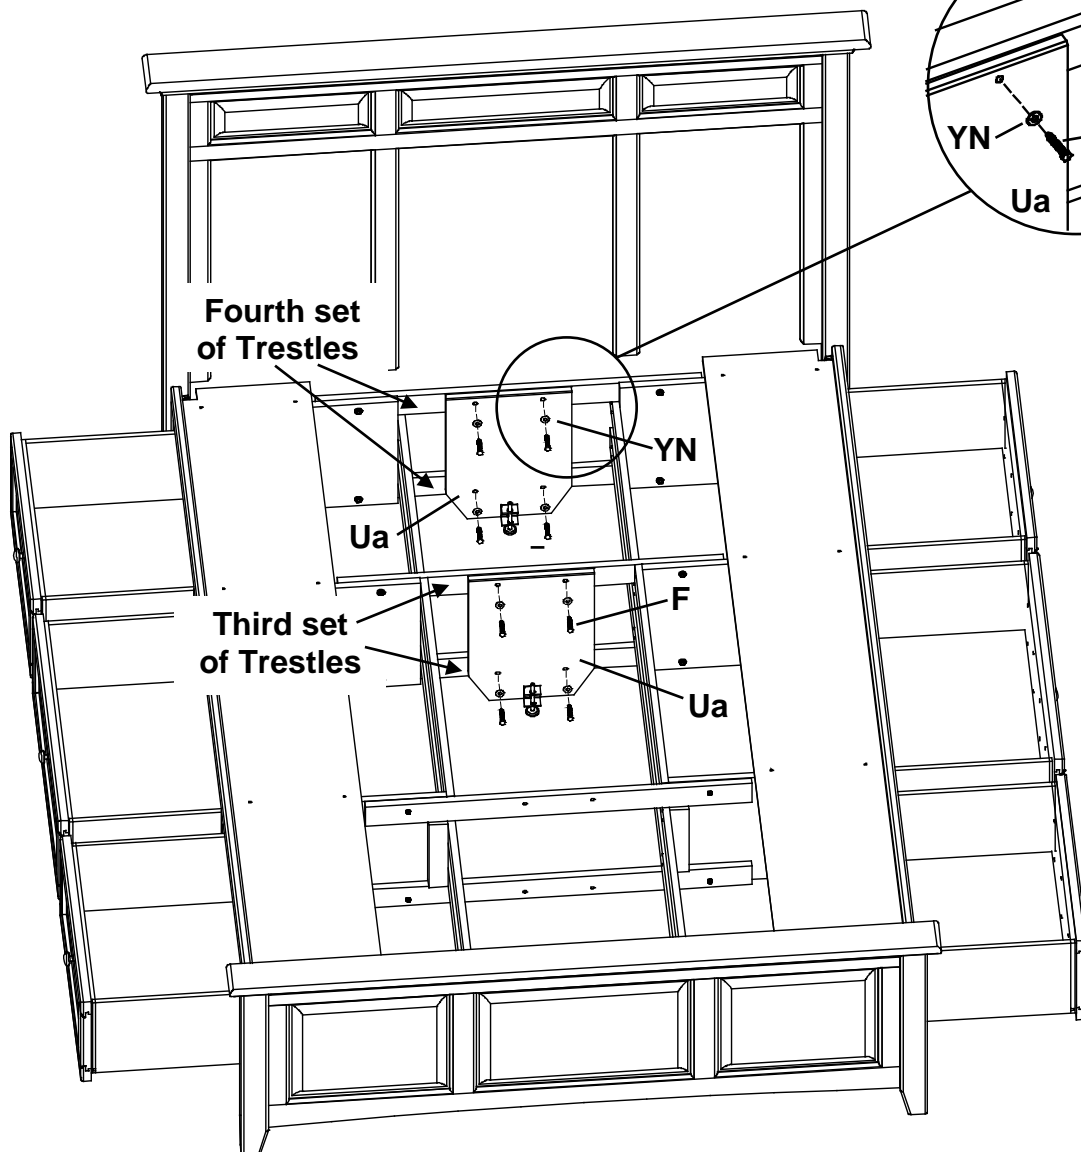

Fig. 10
Facing the Headboard, place two Assembled Feet (Ua) on the inside faces of the third and fourth upper and lower Trestles. Attach with Washers (YN) and 1/4" x 1-3/4" Hex Bolts (F). See Figures 10 and 10a.